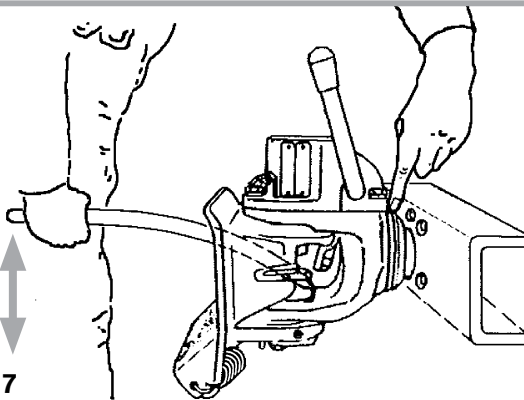

Fig. 7
- Insert curved steel bar (see Fig. 7) such that top of bar is flush against jaw and bottom rests on BODY of coupling (not on lower bush).